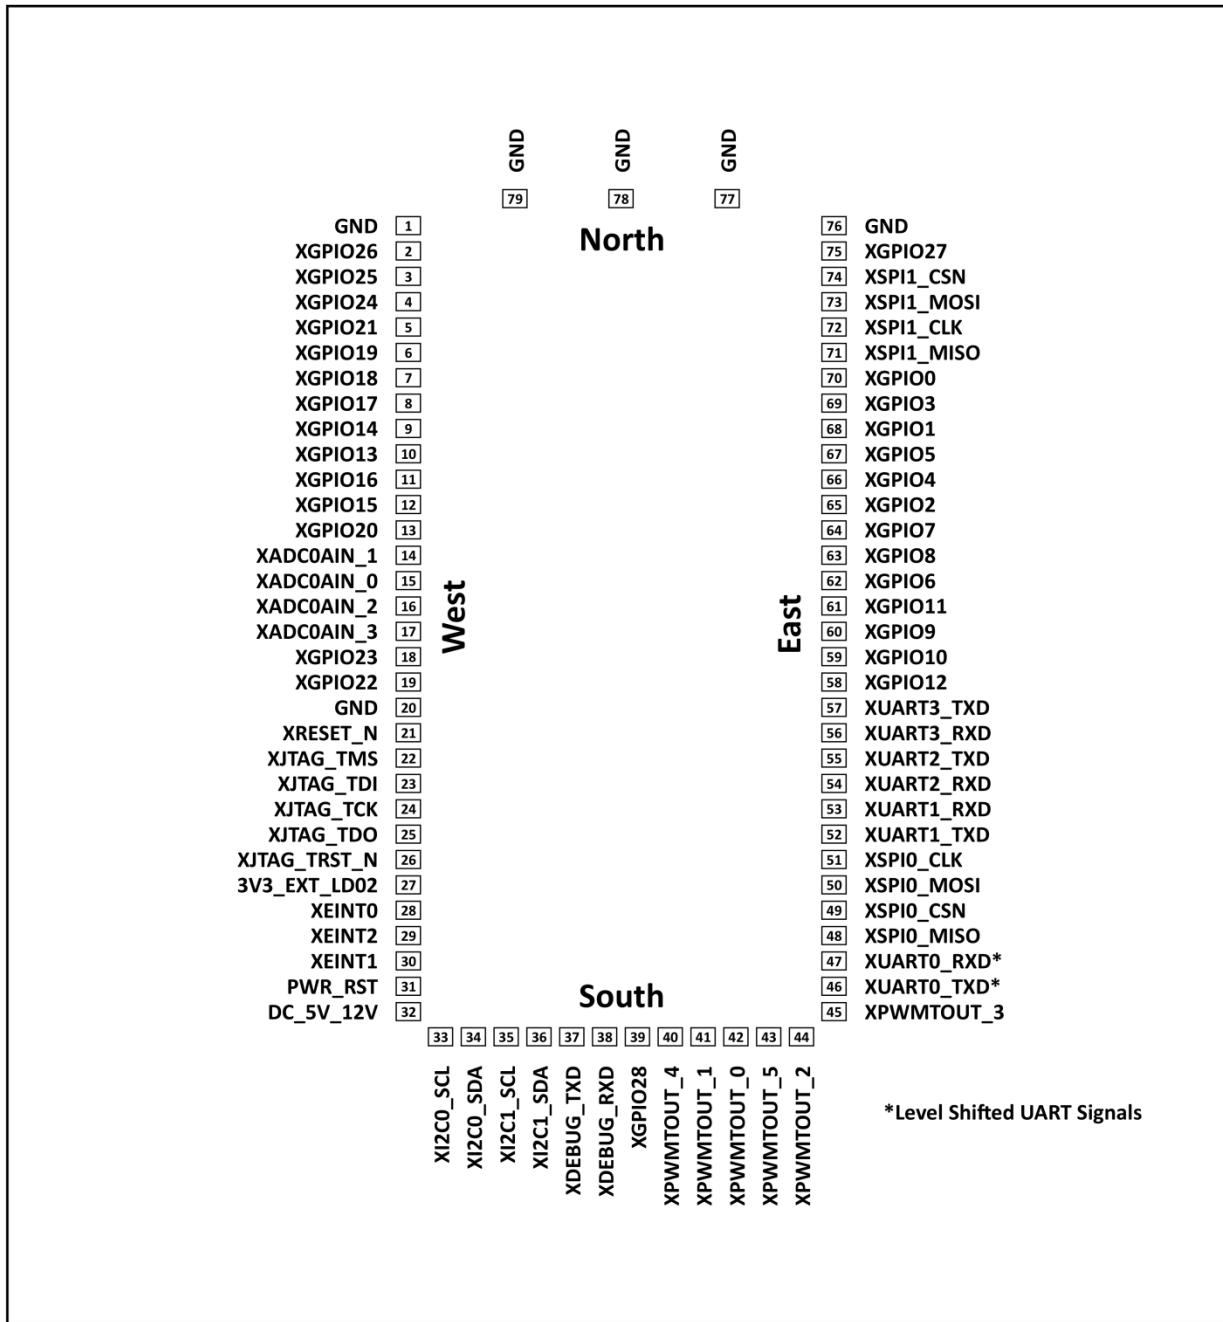

Figure 4. ARTIK 053/053s Module Edge Pinout (Top View)
- **Pad Number** defines the signal pad on the edge of the module. Refer to *Figure 4* for pad/signal physical layout.